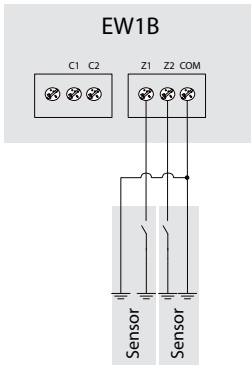

Fig. No. 6
5. Connect the circuit as indicated in Fig. No. 6.